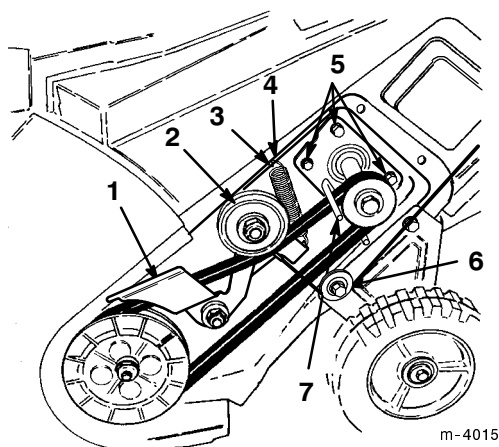

Figure 18
8. Loosen the four engine mounting nuts enough to allow the belt guide to rotate away from the drive pulley to remove the belt (Fig. 18).
15. Ensure that the long end of the idler spring is hooked in the housing hole and the round end of the spring is hooked in the brake arm (Fig. 18).
16. Lift up the brake arm assembly, squeeze the drive belt together, and route the drive belt under the idler pulley (Fig. 18).
IMPORTANT: Ensure that the drive cable is on the cable pulley before you install the left side cover (Fig. 18)